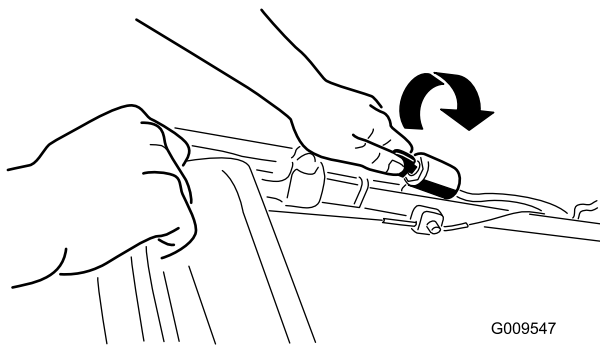

**Figure 10**
1. Hold the blade control bar against the handle (Figure 10).